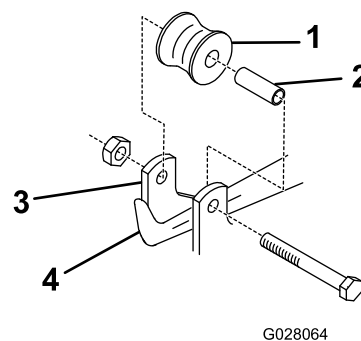

Figure 4
2. Slide the spiker unit under the pull-arm frame until the lift-pivot plates are positioned on either side of the lift arm (Figure 4).
3. While pressing down on the lift arm, roll the spiker unit back until the lift roller is over the left arm (Figure 4).